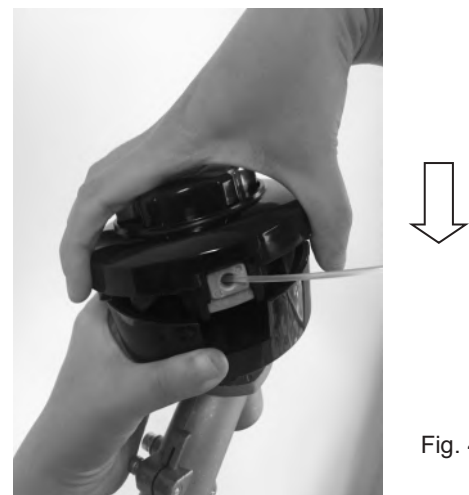

Fig. 4
- Install the spool back into the spool cover making sure it is firmly locked in place. (See Fig. 4)